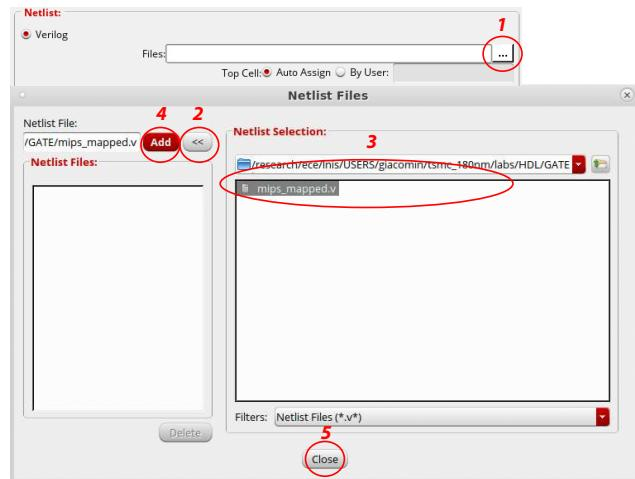

Figure 4: Adding the gate-level verilog file.
1. From the design import window, next to the *Verilog* field, click on the ... button as illustrated in Fig. 4.